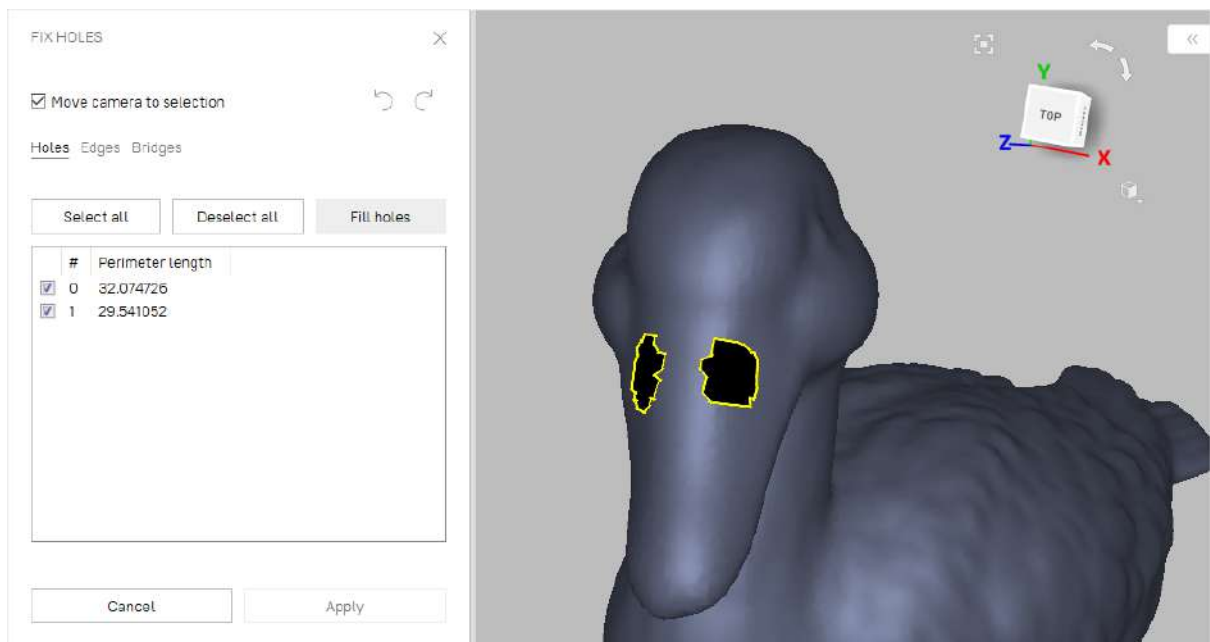

Figure 106: Two holes marked for correction.
3. Select a hole either in *3D View window* or mark the checkbox next to it in the list. Artec Studio will highlight these holes in red (see Figure 106).